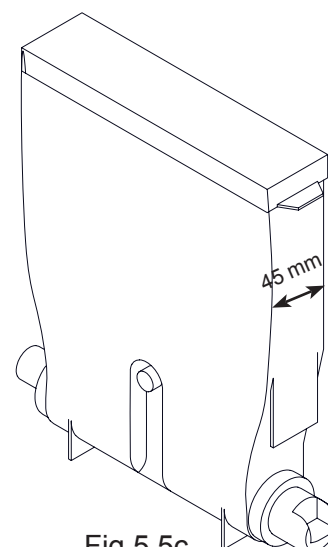

Fig.5.5c
- Container for ingredient (see fig.5.5c)